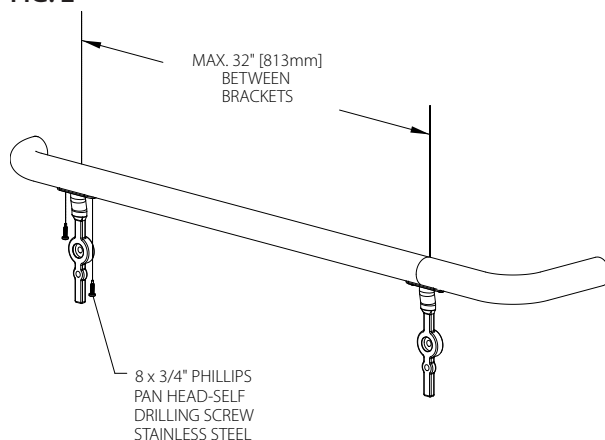

FIG. 3a
3. When joining longer sections of handrail or connecting straight lengths to corners use a splice. See Fig. 3a.